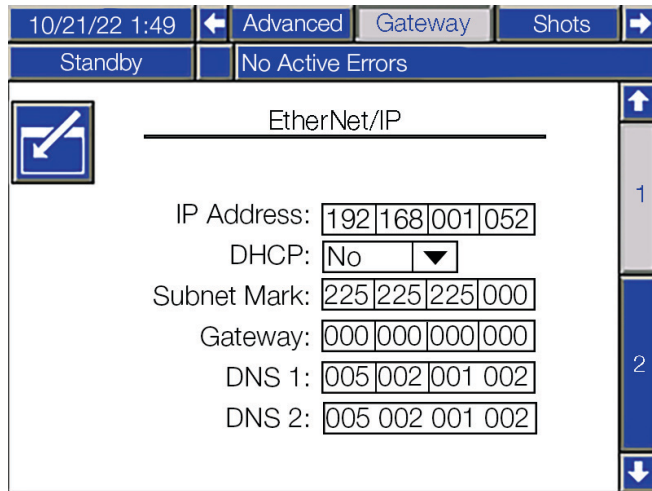

FIG. 53 EtherNet/IP Fieldbus Screen 1
2. Press the left arrow key once to navigate to the main gateway screen. See FIG. 53.
This screen enables the user to set the IP address, DHCP settings, subnet mask, gateway, and DNS information. See Fig. 53.